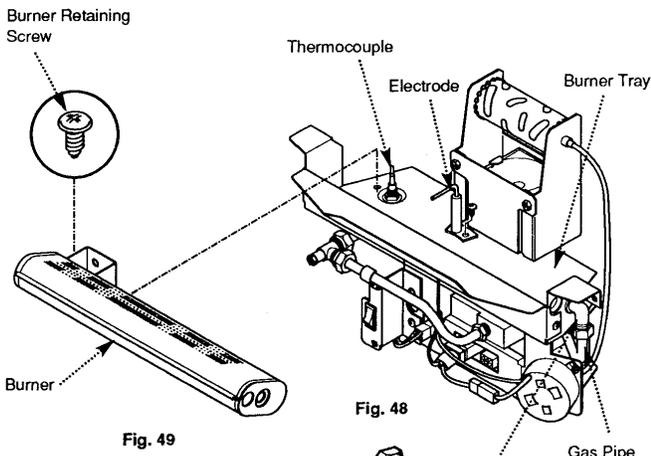

Fig. 49
2. Undo the screw retaining the burner to the burner tray (Fig. 49).